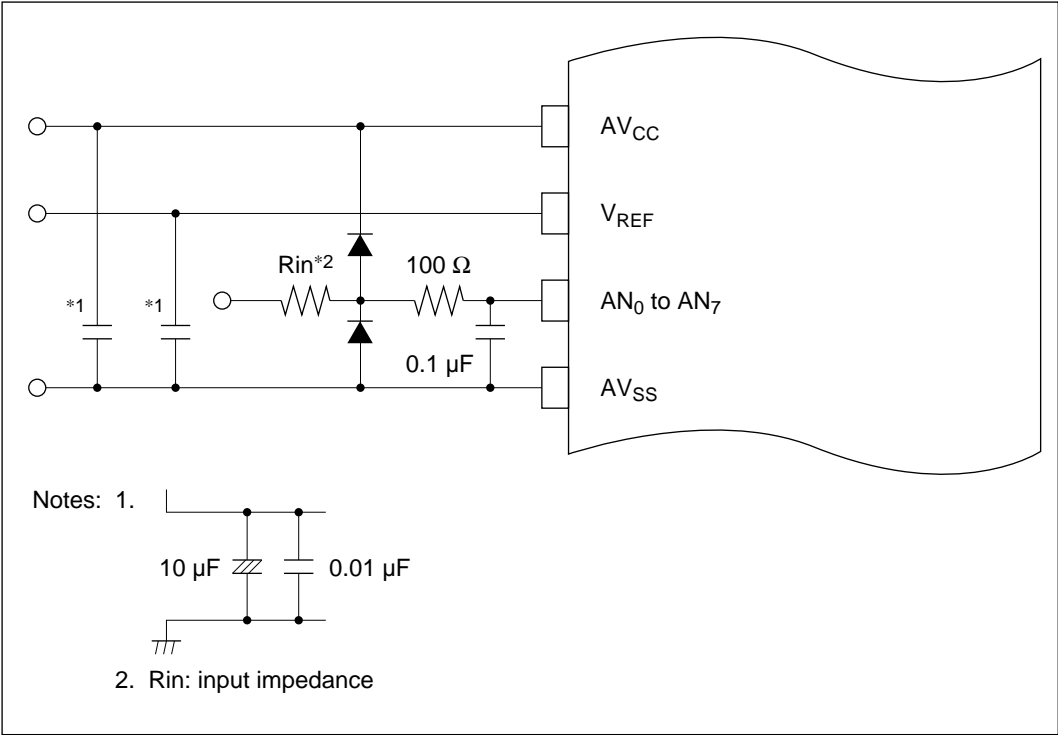

Figure 15-7 Example of Analog Input Protection Circuit
5. **Note on Noise:** To prevent damage from surges and other abnormal voltages at the analog input pins (AN_0 to AN_7) and analog reference voltage pin (V_{REF}), connect a protection circuit like the one in figure 15-7 between AV_{CC} and AV_{SS} . The bypass capacitors connected to AV_{CC} and V_{REF} and the filter capacitors connected to AN_0 to AN_7 must be connected to AV_{SS} . If filter capacitors like the ones in figure 15-7 are connected, the voltage values input to the analog input pins (AN_0 to AN_7) will be smoothed, which may give rise to error. Error can also occur if A/D conversion is frequently performed in scan mode so that the current that charges and discharges the capacitor in the sample-and-hold circuit of the A/D converter becomes greater than that input to the analog input pins via input impedance R_{in} . The circuit constants should therefore be selected carefully.